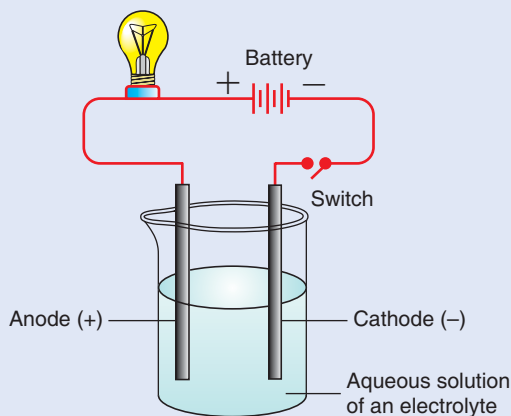

Figure 3.4 Conductivity of electrolytic solution.
Construct a conductivity apparatus in your group. To construct the apparatus, you will need a light bulb, three dry cells, some electric wire, two graphite electrodes and a switch. You can get the graphite electrodes by peeling off two old dry cells. A graphite electrode is the long cylindrical black rod inside the cell. Ask your teacher for further assistance. Assemble the materials as shown in **Figure 3.4**. Demonstrate the experimental set-up to the class.
1. Arrange the conductivity apparatus as shown in **Figure 3.4**.